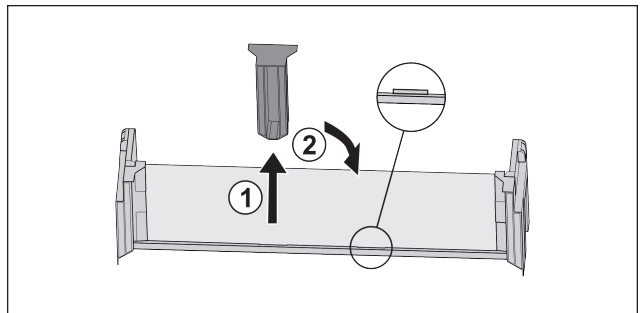

Fig. 26
- ▶ Pull off the middle holder Fig. 26 (1).
- ▶ Insert the middle holder in the second position Fig. 26 (2).